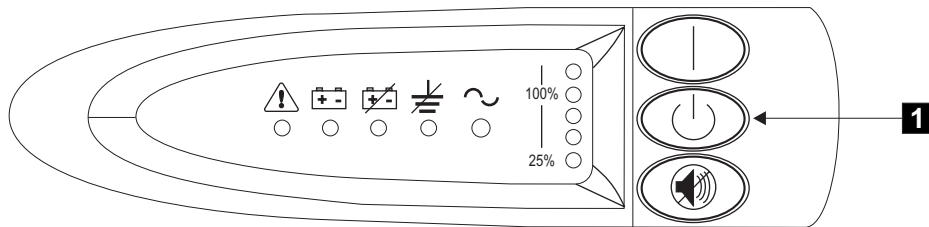

Figure 204. 2145 uninterruptible power supply front panel assembly
1. At the front of the 2145 UPS, press and hold the off button **1** for approximately five seconds or until the long beep stops. See Figure 204.